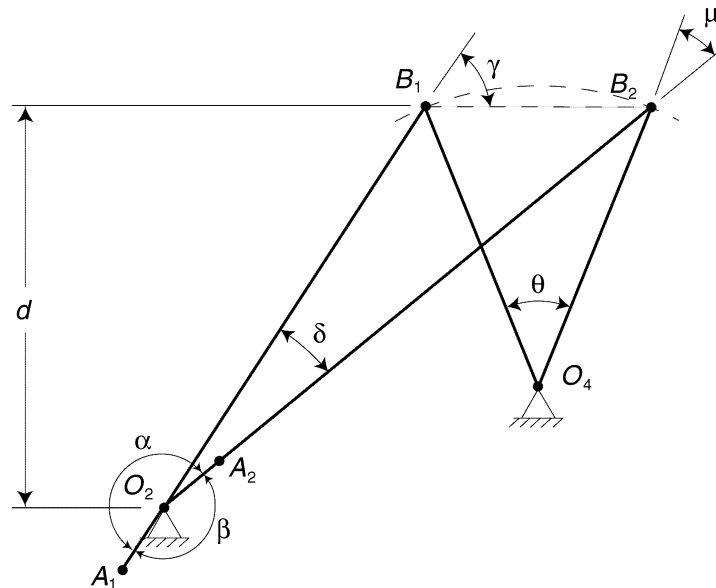

Figure 1. The graphical design of a crank-rocker quick-return mechanism.
The following steps describe a graphical method of designing three and four-bar quick return mechanisms. You will need a pencil, ruler, compass, and protractor for this design; refer to Figure 1 below during this process.
The intersection of the line drawn in step 2 and the line through B_2 at angle d is the crank pivot O_2 (refer to Figure 1 above).
where ℓ_{CPL} is the length of the coupler, ℓ_{CR} is the length of the crank, and $L_{O_2B_1}$ is the distance between O_2 and B_1 , and $L_{O_2B_2}$ is the distance between O_2 and B_2 in Figure 1 above.
where d is the perpendicular distance between O_2 and the line passing through B_1B_2 , as indicated in Figure 1. Both of these criteria must be satisfied for the crank to rotate a full revolution. At this point the design for your crank-slider linkage is complete.
8. The transmission angle m is the angle between the coupler and rocker. In the case of the crank-slider, the rocker is a link of infinite length, so the transmission angle is measured between the coupler and a line perpendicular to the slider path. When you have completed your designs, they should look something like Figure 1 above.